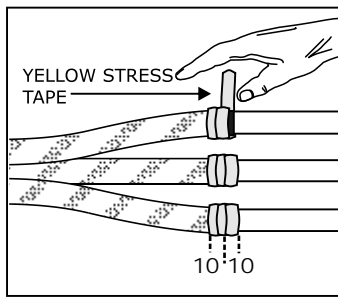

Fig 6
11. Apply one piece of TS 31785Y Yellow Stress Tape with stretch and half width overlap to each Screen end as shown in Fig 6. Overlap the Tape onto the Copper Tape Screen and Primary Insulation by 10mm either side.